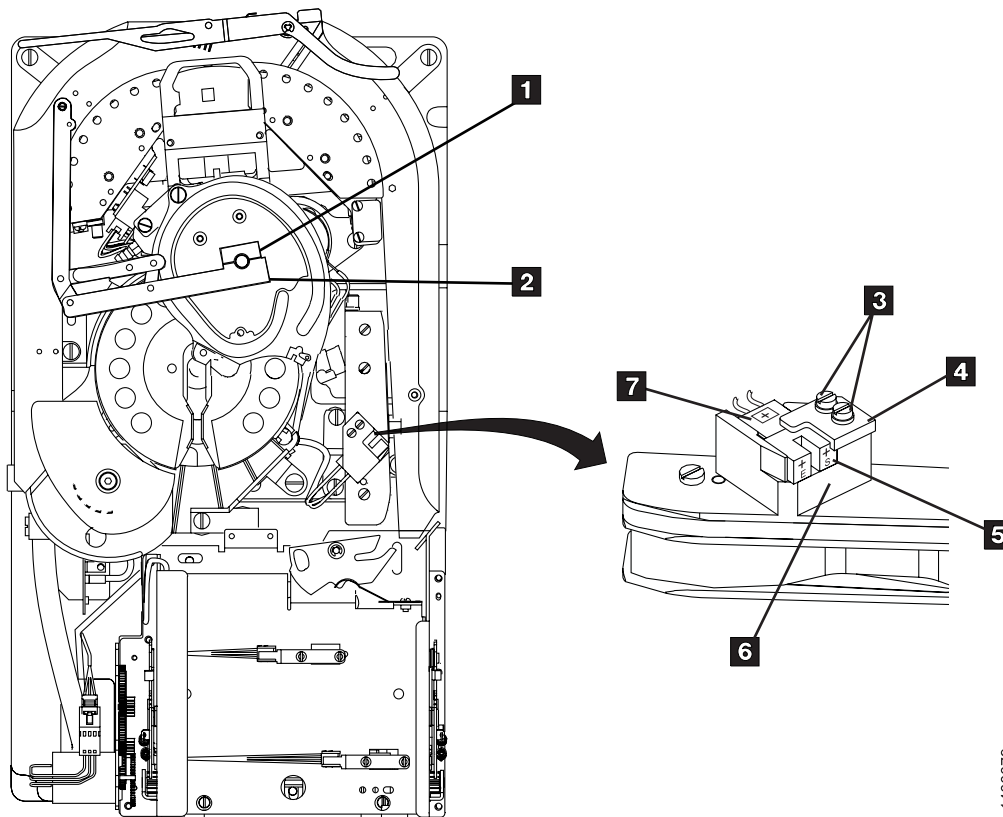

Figure 10-71. Tape Path A Sensor
3. See Figure 10-71. Position the pantocam arm **2** so the arm is away from the tape path A sensor **5**.